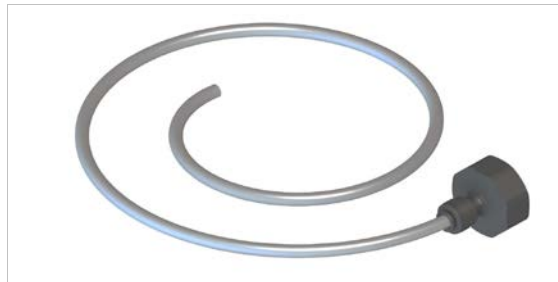

Figure 7.4.5.1.1: Flushing set for connecting to the water tap (3/4")
Use the flushing set (Figure 7.4.5.1.1) to flush the pressure vessel (flushing set included in the scope of delivery).
- Place the flushing set (Figure 7.4.5.1.1) and the maintenance hose from the scope of delivery in a position ready for use.